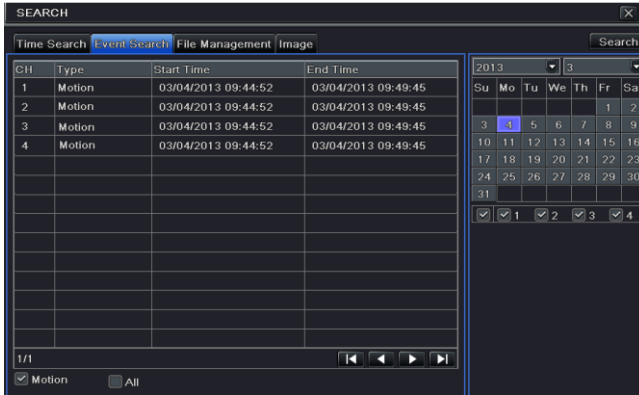

Fig 5-2 Search Configuration-Event Search
Step 1: Enter into Menu→Search→Event Search button. Refer to Fig 5-2: